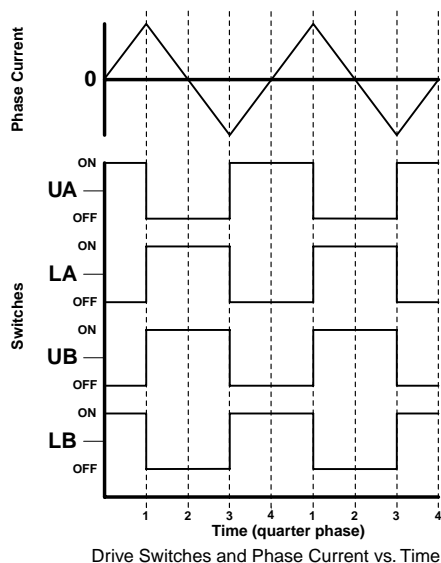

FIGURE 3A. COMPLEMENTARY 4-QUADRANT DRIVE PWM CYCLE
During the first quarter of the PWM cycle (starting at time zero on FIGURE 3A) the MOSFET's, PHASE A UPPER (UA) and PHASE B LOWER (LB) (FIGURE 2), are turned on. This allows current flow from phase A to phase B to increase to $+I_{max}$.
During the third quarter of the PWM cycle, the second pair of switches UB & LA remain on allowing current to flow, in the negative direction, from phase B to phase A and increase to $-I_{max}$ as shown in FIGURE 3A.